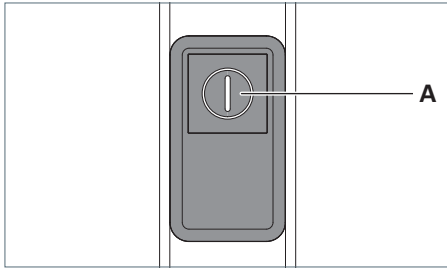

Fig. 19: Control element.
- ▶ Press the key **A** seven times quickly in succession, see Fig. 19.
- ▶ Press the key **A**, see Fig. 19.
- ▶ Press the key **A** and keep this key pressed, see Fig. 19.